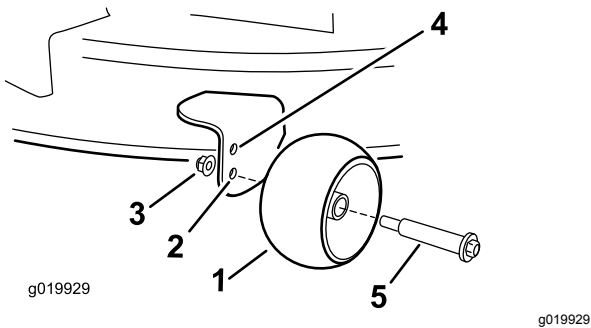

Figure 28
- Upper hole—use this position with the mower deck in the 63 mm (2-1/2 inches) and below the height-of-cut positions (Figure 28).
- Lower hole—use this position with the mower deck in the 76 mm (3 inches) and above the height-of-cut positions (Figure 28).